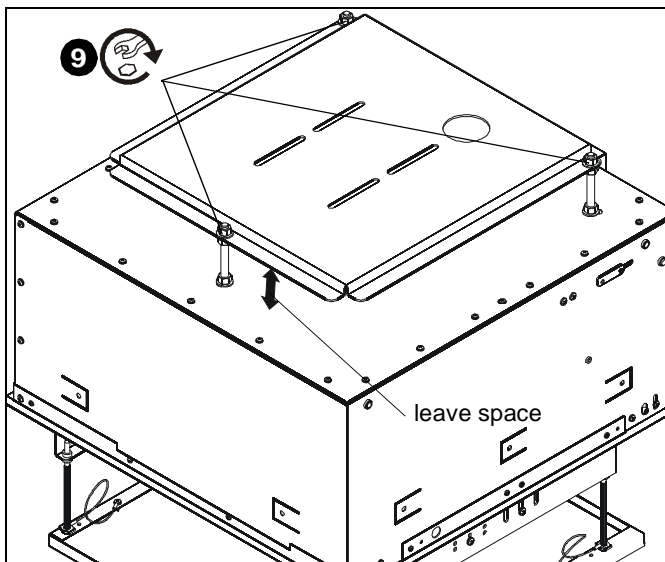

Figure 6
9. Secure main plate near top of bolts by threading nuts together. Make sure to leave plenty of space between plate and SL-151 to allow for easy access in later steps. (See Figure 6)